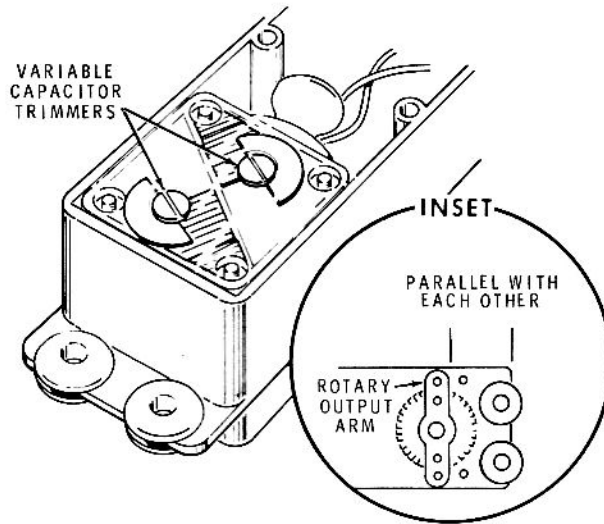

Figure 3-9
- () 2. Adjust (one or both) the trimmer(s) on the rear of the variable capacitor until the rotary output arm is perfectly parallel to the end of the Servo case. See Figure 3-9.